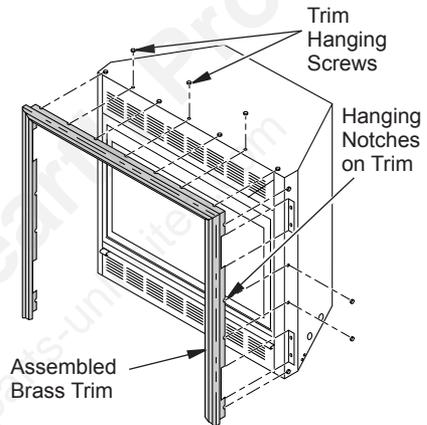

Figure 39 - Attaching Brass Trim to Fireplace
8. Tighten trim hanging screws (#10 x 6.25 shoulder) into holes in cabinets. Place the assembled trim onto fireplace cabinet. Align hanging notches on trim with hanging screws on side of fireplace (see Figure 39). Push trim firmly into place, sliding hanging notches over hanging screws.